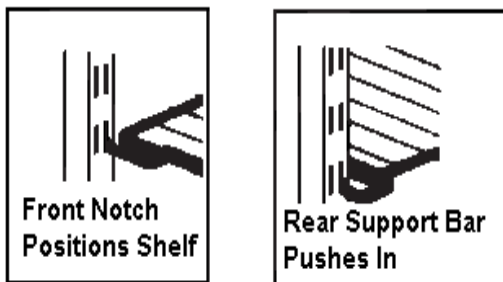

Figure 24
8. The shelves are installed into the slots on the rear of the posts. Refer to Figure 24 .